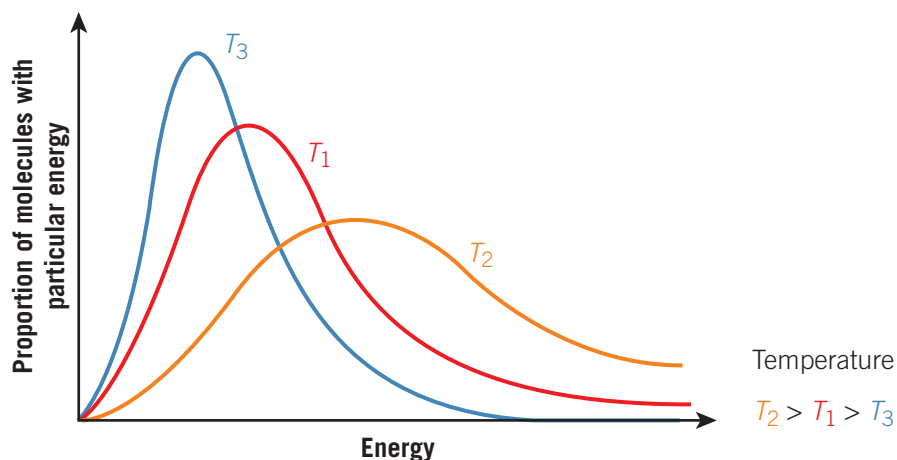

Figure 5B–6 A Maxwell–Boltzmann distribution curve showing that the proportion of molecules with higher energies increases as temperature increases
Explanation: If we think back to Unit 2, concentration is a measurement of how many particles are in a given space or volume. This can be demonstrated in Figure 5B–1, which shows the concentration of a solution increasing from low to high.
Figure 5B–1 In a high concentration solution, there are more particles in a given volume, so the probability of them colliding is higher than when the concentration is low.
As Table 5B–1 illustrates, the main reason that an increased concentration leads to an increased rate of reaction is that there is an increased collision frequency. Put simply, when there are more particles in a given space, the probability of them colliding is much higher (Figure 5B–1).
Explanation: To understand the effect of gas pressure on the rate of reaction, we must understand the relationship between gas pressure and volume (generally this refers to the volume of the reaction vessel). As the volume decreases, the gas pressure increases. Conversely, as the volume increases, the gas pressure decreases. This is shown in Figure 5B–2, which shows two different-sized reaction vessels: they both contain the same number of particles but have different gas pressures.
Figure 5B-2 The same amount of gas particles in a container with a greater volume (left) will have a lower gas pressure than if they were in a container with a smaller volume (right).
Figure 5B-3 Large volumes (left) have low pressures and the number of particle collisions is low; thus, the reaction rate is low. Small volumes (right) have high pressures and the number of particle collisions is high, thus the reaction rate is high.
Explanation: When we talk about an increased surface area, it may be helpful to picture some examples. In Figure 5B–4, we can see an image of a solid piece of sodium metal (left) and sodium powder reacting (right). The solid sodium has a much lower surface area than the sodium powder, which is why the rate of reaction for the powder is so much greater (and explosive!).
Figure 5B–4 Solid sodium (left) is safe to have in the open as the surface area that can react with the atmosphere is a small proportion of the volume of the object, and thus the reaction rate is low. Powdered sodium (right), however, is made of many small particles, all of which can react with the atmosphere. Therefore, the reaction rate is fast (and the reaction is violent!).
To understand exactly why an increased surface area leads to an increased collision frequency, it can be helpful to visualise it (Figure 5B–5).
Figure 5B–5 Increasing the surface area of a reactant allows for an increased collision frequency. When there is a small surface area (left), there are fewer particles available to react (shown in orange) than when there is a larger surface area (right).
In Figure 5B–5, we can see clearly that it is just the particles on the outside that can collide with the other reactant in solution. However, as the surface area increases moving from left to right across the figure, the number of particles that are available to participate in collisions also increases.
For particles in a reaction mixture, as the temperature is increased, the added heat provides energy that they can use to move. This means that at higher temperatures, there are more particles that have higher amounts of kinetic energy. This can be represented through a graph known as a Maxwell–Boltzmann distribution curve (Figure 5B–6).
- 2 As the particles that are colliding are likely to have greater energy due to the increase in temperature, these collisions are also more likely to be successful. This is because this increased energy means that a larger proportion of particles are colliding with energy greater than the activation energy. We can also represent this using a Maxwell–Boltzmann distribution curve (Figure 5B–7).
Figure 5B–7 At higher temperatures, there are more particles that have energy greater than the activation energy (E_a). At T_1 , only particles in the purple shaded region would have sufficient energy to successfully react if they collided. However, at T_2 , collisions between any of the particles in the purple and orange regions would have sufficient energy to react. This helps explain why higher temperatures result in an increased rate of reaction.
Explanation: Catalysts speed up the rate of a reaction by providing an alternative reaction pathway with a lower activation energy. This means that when the reaction occurs via the catalyst, the reactants need less energy for a successful reaction. This can be illustrated using an energy profile diagram (Figure 5B-8).
Figure 5B-8 A catalyst provides an alternative reaction pathway that lowers the activation energy of a reaction (purple dotted line) compared to the uncatalysed reaction (blue line).
However, the one aspect of collision theory that is clearly altered as a result of including a catalyst in a chemical reaction is the number of collisions that have sufficient energy to react. Similar to temperature, this can be highlighted through using a Maxwell–Boltzmann distribution curve (Figure 5B–9).
Figure 5B–9 Catalysed and uncatalysed activation energies on a Maxwell–Boltzmann distribution curve. Without a catalyst, only the particles in the blue shaded area will have sufficient energy to react. However, with a catalyst present, the particles in both the green and blue shaded areas will have sufficient energy to react.
In Figure 5B–9, without a catalyst, only the particles in the blue shaded area have sufficient energy to react. In the presence of a catalyst, all the particles in both the green and blue shaded areas would have sufficient energy to react.
There are two types of catalysts – **heterogeneous** and **homogeneous** – and they differ based on their state compared with the reactants (Figure 5B–10). Zinc, for example, is the solid metal coating used in catalytic converters of cars and is considered a heterogeneous catalyst, as the reactants it facilitates are the gases emitted from fuel combustion. Adenosine triphosphate, or ATP, is considered a homogeneous catalyst in biological systems, as both it and the reactions it facilitates are aqueous in nature.
Figure 5B–10 Homogeneous catalysis occurs when both the catalyst and reactants are in the same phase (left), whereas heterogeneous catalysis occurs across different phases, such as aqueous reactants and a solid catalyst (right).